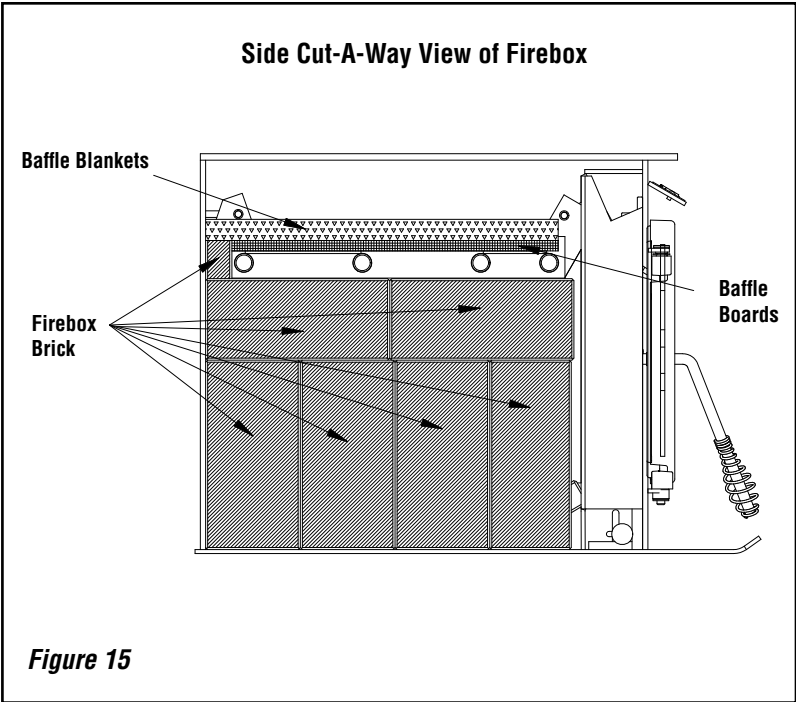

Figure 15
2. Next, you will install the baffle boards. All 4 baffle boards included are the same size (15-1/2" X 6-3/16"). You will start by installing the boards in the center part of the unit on top of the secondary tubes to each side of the baffle support with the 15-1/2" side of the baffle board going from the front to back of the unit. Once you have the first two boards installed slide the board to the left side of the baffle support all the way to the left and rear of the unit. You will slide the board to the right side of the secondary support to the right and rear of the unit. Next you will install the two remaining boards where you originally installed the first two boards on each side of the baffle support and pushed against the rear of the unit. The stainless steel support hanger should be centered left to right between the sets of baffle boards and placed as shown in **Figure 15 on Page 15**.